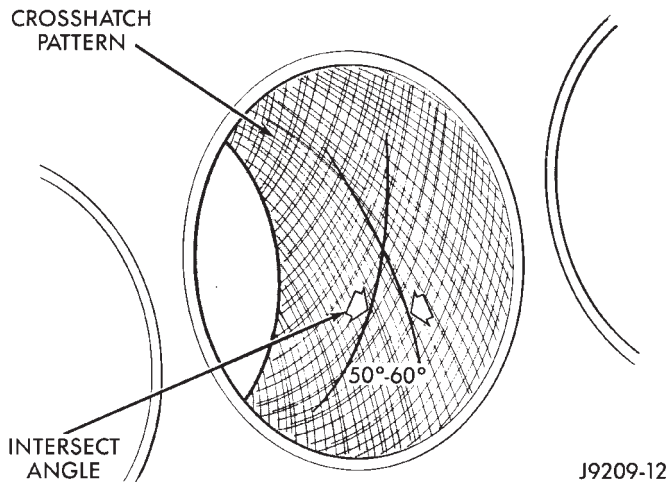

Fig. 1 Cylinder Bore Crosshatch Pattern
(3) Honing should be done by moving the hone up and down fast enough to get a crosshatch pattern. The hone marks should **INTERSECT** at 50° to 60° for proper seating of rings (Fig. 1).